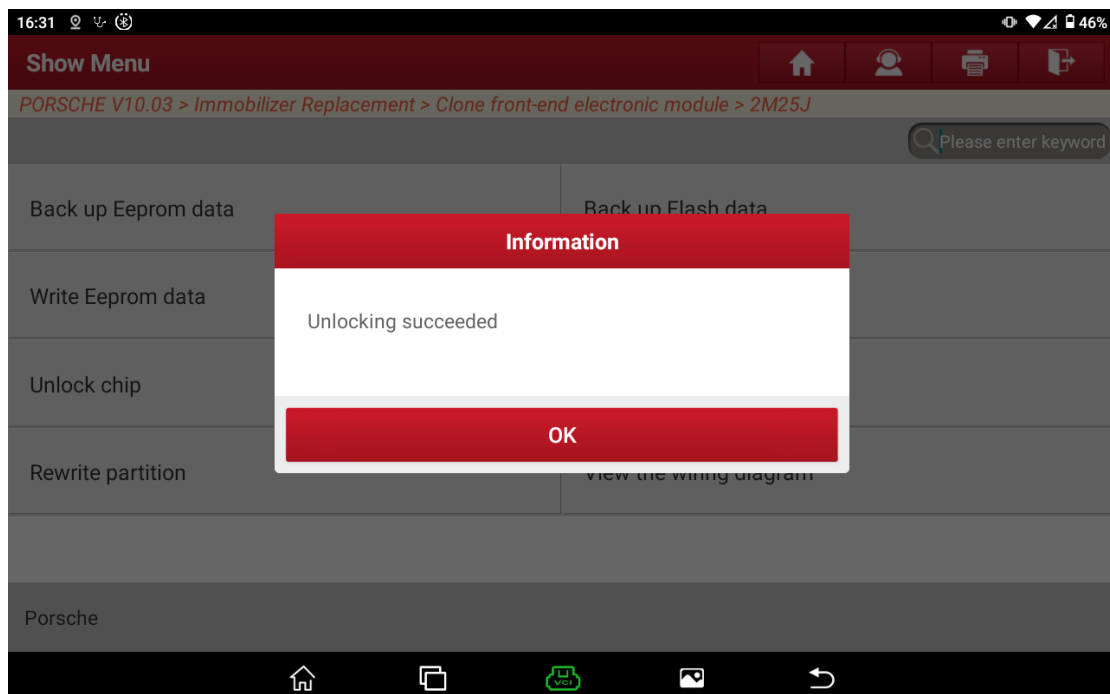

Figure 10
10. Unlocking is successful, as shown in Figure 10.